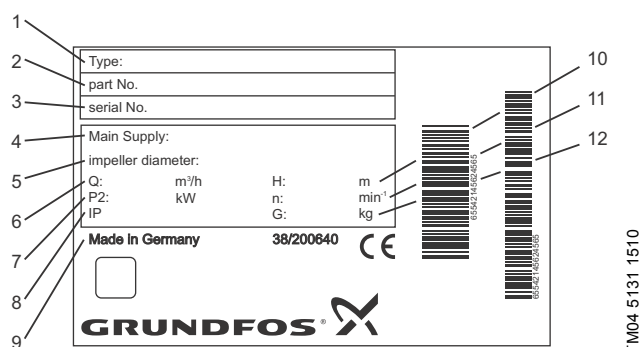
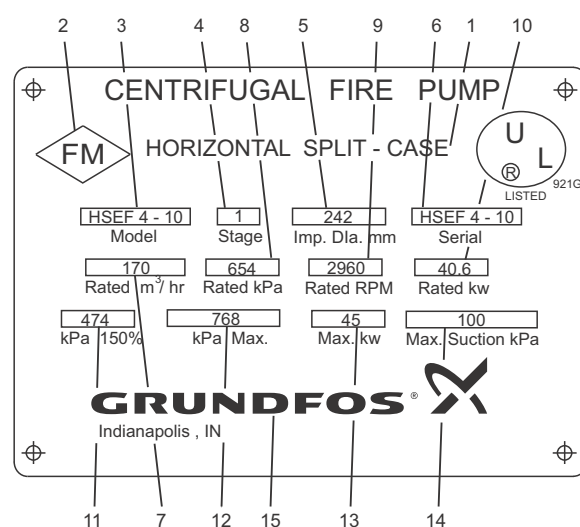
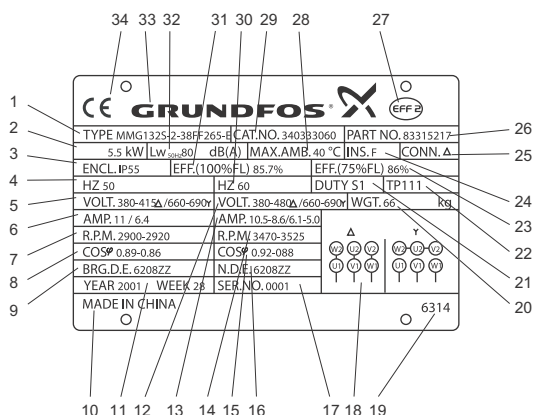

Fig. 11 Nameplate for fire pump set
Fig. 12 Example of nameplate for HSEF pump
Fig. 14 Example of motor nameplate
All important data of the fire pump set are stated on the fire pump set nameplate (fig. 11), pump nameplate (fig. 12 and 13), the motor nameplate (fig. 14) and controller nameplate (fig. 14).
The sound pressure level depends on the motor. It was measured one metre away from the fire pump set. The sound pressure level for the motor types is given in the table below. The motor type is stated on the motor nameplate. See fig. 14, pos. 4.